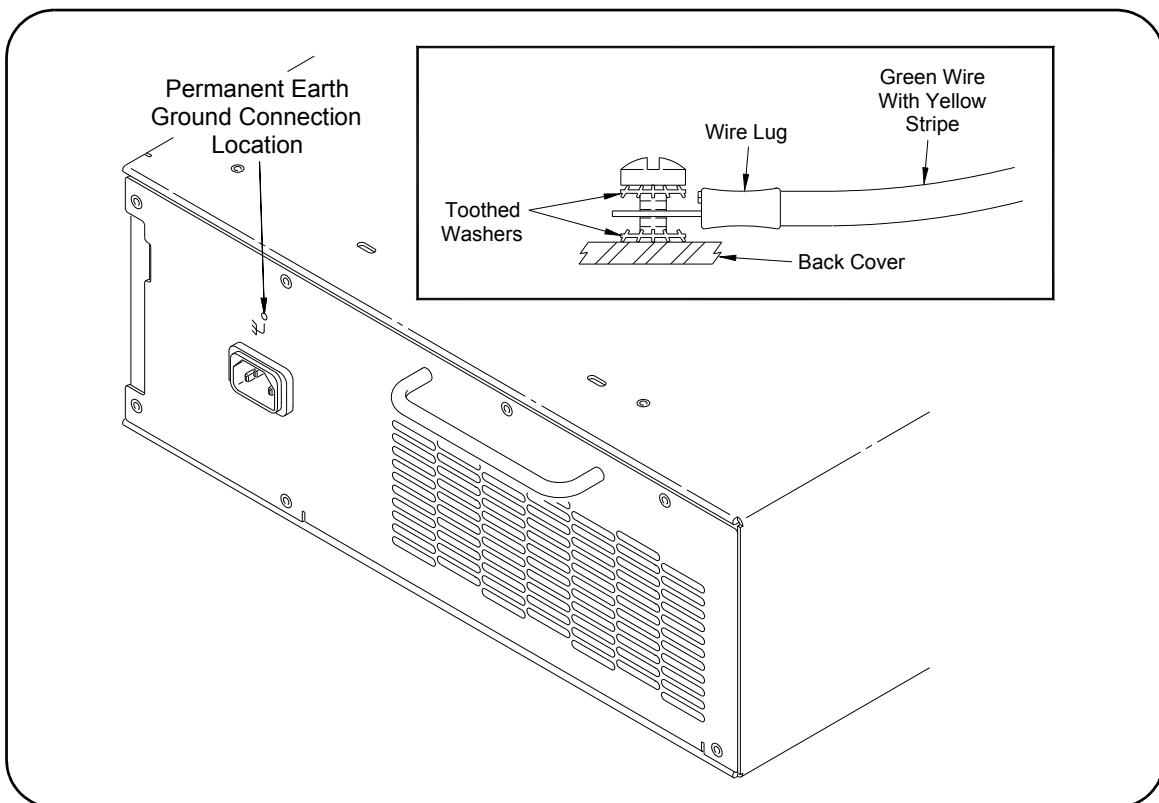

Figure 1-2. Connecting the E8408A Mainframe to a Permanent Earth Ground
The mainframe can be connected to a permanent earth ground. This connection is made on the back of the mainframe (see Figure 1-2).
1. Connect a 16 AWG (1.3 mm or larger) wire to the PEM nut shown in Figure 1-2. The wire must be green with a yellow stripe, or bare (no insulation). Use a M4 x 10 screw, grounding lug, and toothed washers (or toothed lug) as shown in Figure 1-2.